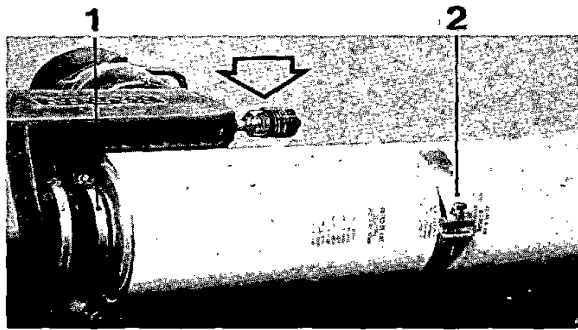

Fig. 158. Replacing the air filter (the picture shows TD60)
1. Clean the rubber hose to the filter. Loosen the hose clamp (1, fig. 158) and the filter attaching clamp (2).